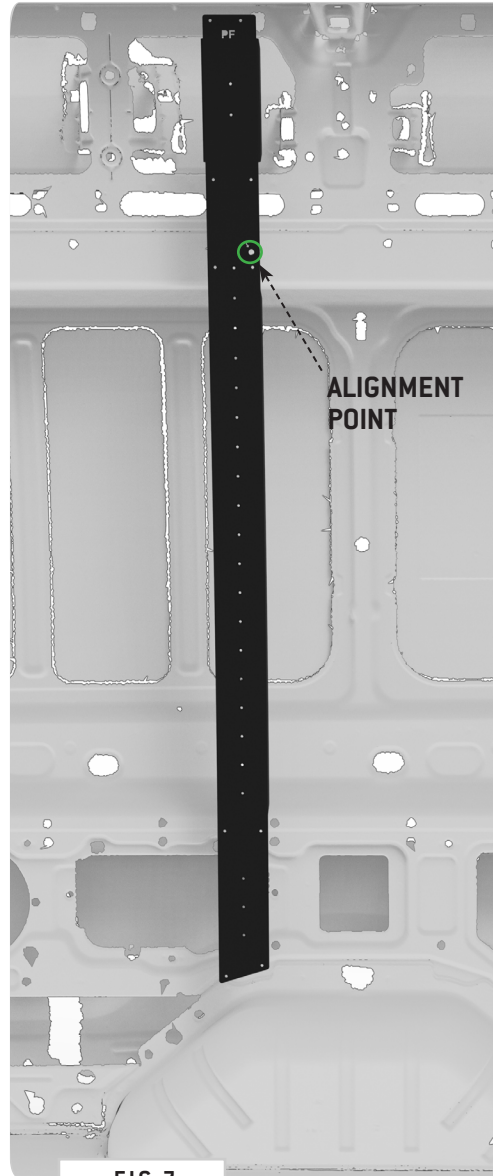

FIG 7
3.1 Align Driver Side Front Bracket: Align the **Driver Side Front Bracket** to the **Alignment Point** as shown in FIG 7. There should also be a **Body Seam** that you can use as a visual guide.